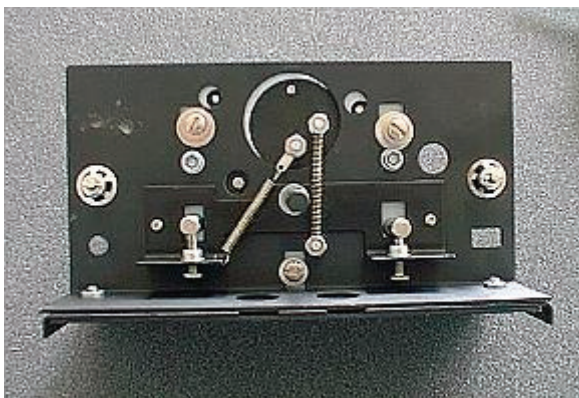

Figure 50 The screws underneath the accessory
4. Loosen the three screws on the underside of the accessory, as shown in Figure 50.
11. Tighten the two upper locking screws, as shown in Figure 49, and the three locking screws underneath the accessory, as shown in Figure 50.